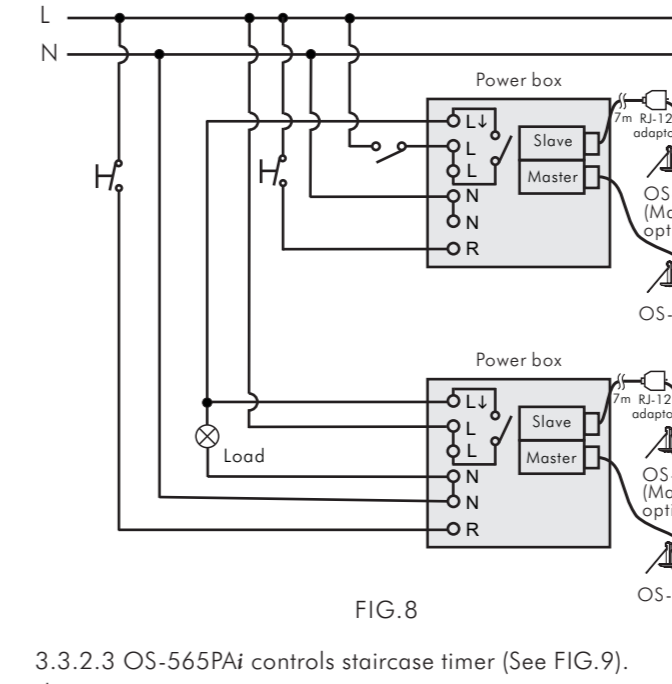

FIG.10
3.3.2.4 One load is controlled by two detectors (See FIG.10).